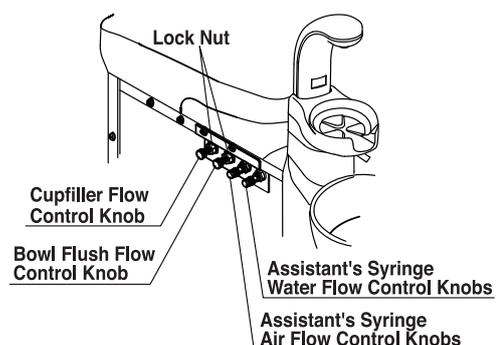

Fig.3-23 Flow Control Knobs in Cuspidor Unit Body
##### A. Assistant's Syringe Flow Control Knobs (Fig.3-23)
##### B. Cupfiller Flow Control Knob (Fig.3-23)
C. Bowl Flush Flow Control Knob (Fig.3-23)